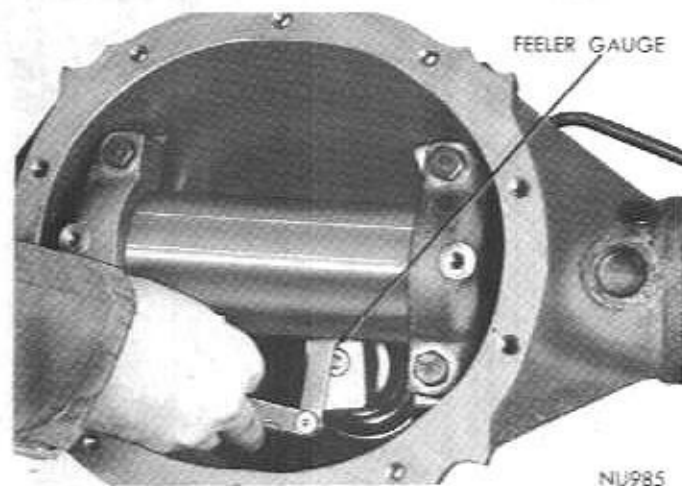
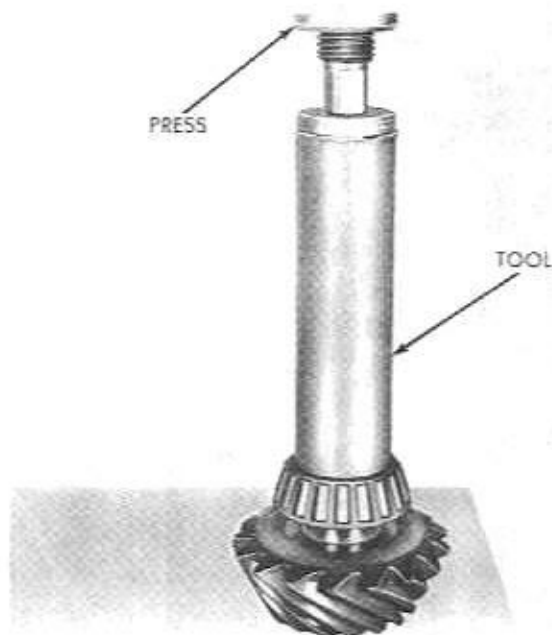

Fig. 19—Determining Proper Shim Pack Thickness for Drive Pinion Depth of Mesh
Fig. 20—Installing Drive Pinion Rear Bearing Cone
(4) Using a feeler gauge select the proper thickness of shims that will snugly fit between arbor and gauge block. This fit must be snug but not too tight (similar to the pull of a feeler gauge). This measurement is then used in determining the correct thickness shim pack for installation behind the rear pinion bearing cup and carrier casting (Fig. 19).
(5) To select a shim pack for installation, read the markings on the end of the pinion head (-0 , -1 , -2 , $+1$, $+2$, etc.). When marking is $-$ (minus), add that amount to the thickness of shim pack selected in step (4). When the marking is $+$ (plus), subtract that amount. Treat other pinion markings in a similar manner. Shims are available in increments of .001" from .061" thru .078".
(6) Remove the tool arbor and tool from axle housing.
(7) Using a brass drift or soft punch and hammer, remove rear pinion bearing cup from casting.
(8) Position the correct thickness shim in axle housing cup bore and install rear bearing cup as described previously in steps (1 thru 3). When cup is properly seated, remove tool and pinion bearing cones.
(9) Lubricate rear drive pinion bearing cone and install bearing cone on pinion stem using Tool C-4040 or DD-955. An arbor press may be used in conjunction with Tool (Fig. 20).
(10) Insert drive pinion and bearing assembly up through axle casting and install collapsible spacer followed by front pinion bearing cone on pinion stem. Install companion flange using Tool C-3718 and holding Tool C-3281. This is necessary in order to properly install front pinion bearing cone on stem due to interference fit. Remove tool and flange from pinion